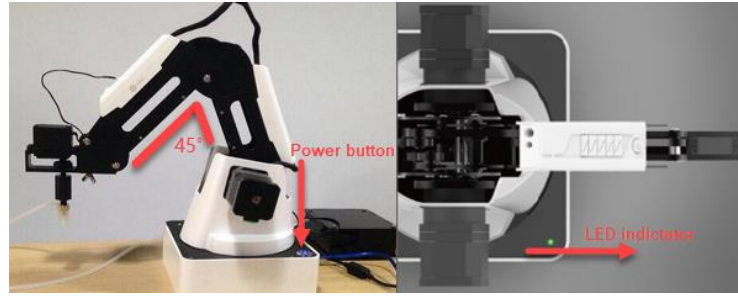

Figure 2.13 The gesture of Dobot Magician before power-on
- **Power on:** align the Dobot Magician into its neutral position with its Forearm and Rear Arm constructing a 45-degree angle, and press down the power button in the base, as shown in Figure 2.13. Once the robotic arm is powered on, the LED indicator turns yellow, and all the stepper motors lock. And then wait about seven seconds, a short beep sound will be heard, and the LED indicator turns from yellow to green. Now the Dobot Magician is ready to use.